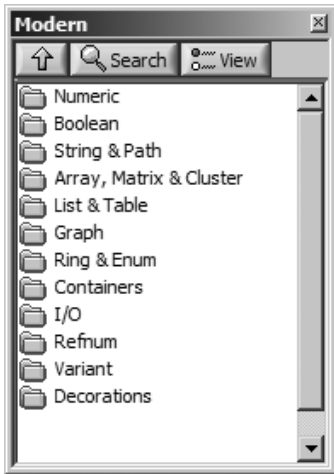

Figure 3.48
- **Text**, shown in Figure 3.48, is minimal. It behaves like the **Icons** and **Icons and Text** formats, where clicking on a subpalette navigates down into that subpalette. Subpalettes are represented by folders with names, and items are represented by their name.